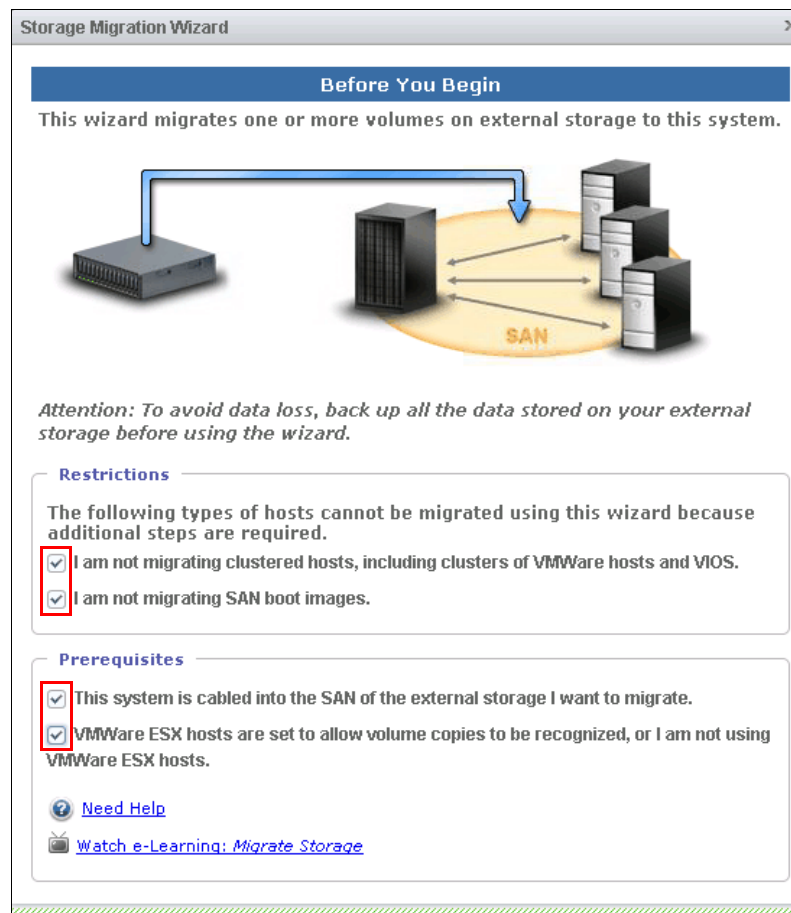

Figure 6-4 Before You Begin window
1. When the wizard starts, confirm the restrictions and prerequisites by selecting the check boxes, and click **Next** (Figure 6-4).